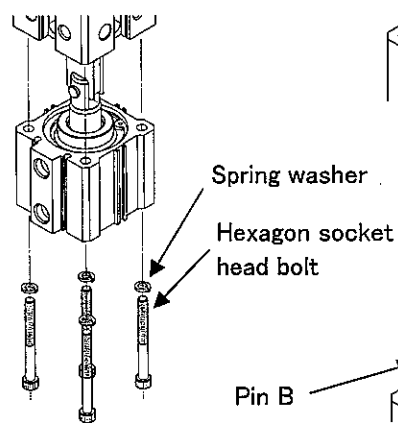

Fig. 7-5
• Loosen hexagon socket head bolt to mount base cylinder and remove the body. (Fig. 7-5)